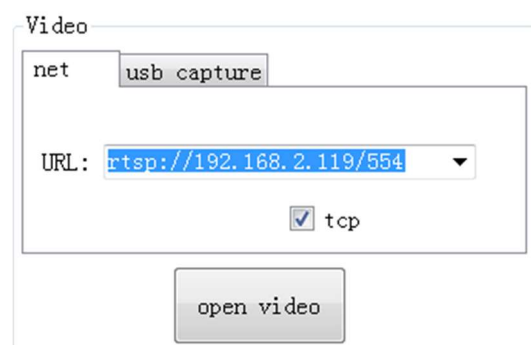
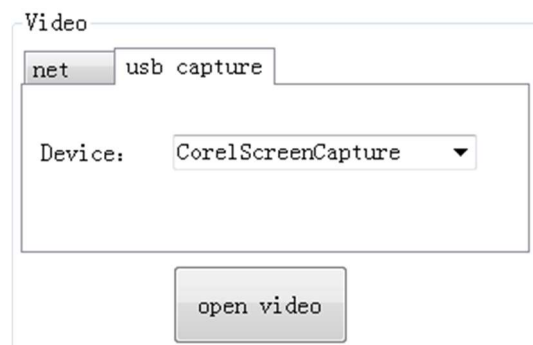

Figure 3-1 Network
Figure 3-2 USB capture
- 2) As shown in Figure 3-1 and Figure 3-2, select the corresponding tab according to the input method;